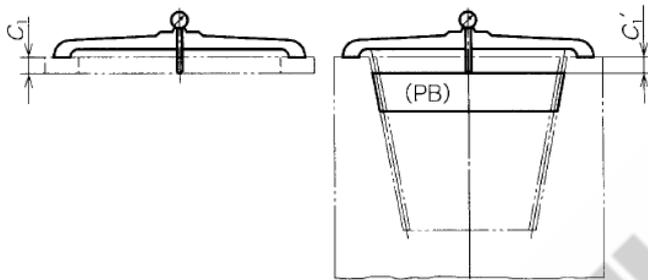

Figure 11 Combination of socket pitch diameter measuring gauge
- a) **Measuring method** The value C_1 of a set block gauge shall be measured with a dial gauge. Then, plug gauge PB (for pole end face) is fitted with the specified clamping torque as given in figure 11, the space C_1' is measured, and the difference ΔC_1 between C_1' and C_1 is calculated. However, ΔC_1 may be directly measured in the measurement of C_1' by adjusting the scale of the dial gauge to zero point in the measurement of C_1 of the set block gauge.